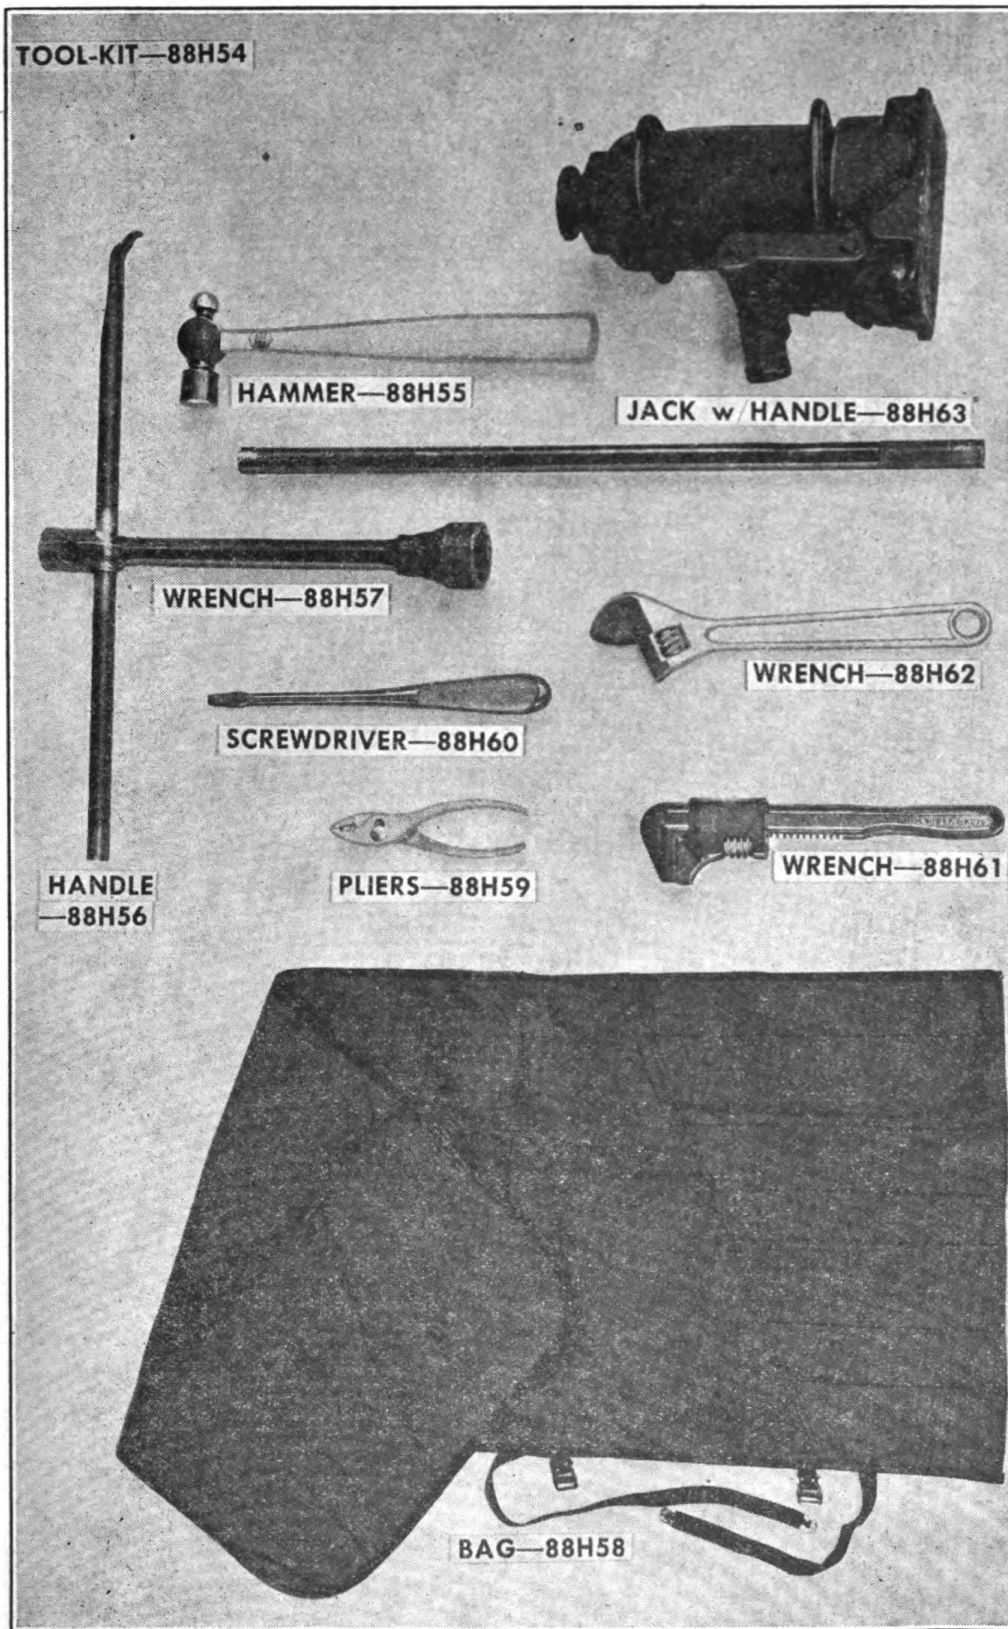

FIGURE 11. TOOLS.
2. TOOLS.—Tools issued with the vehicle are illustrated in (Fig. 11). $\frac{3}{16}$ " x $\frac{7}{8}$ " screw driver supplied with this vehicle is not illustrated.